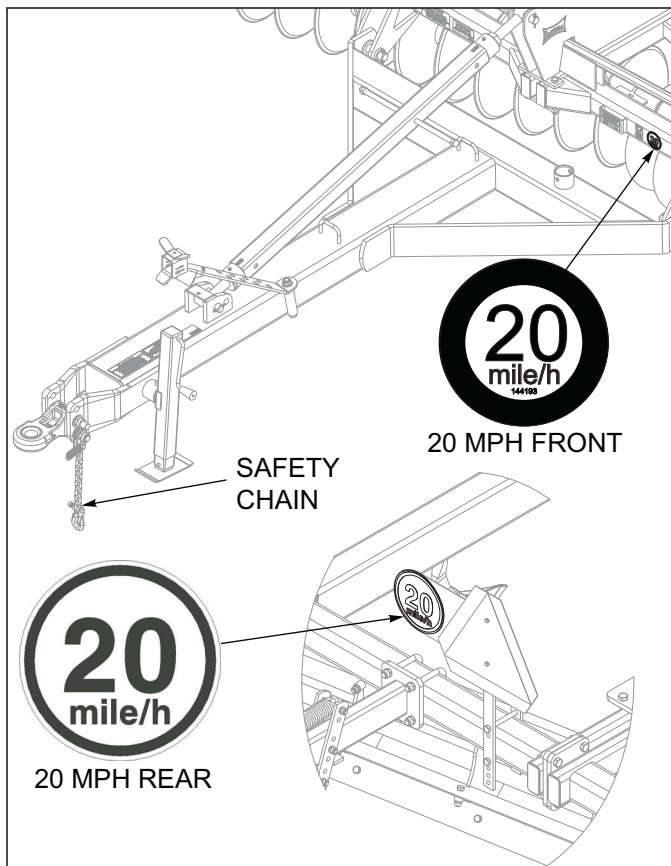

Figure 4-13: Hitch, Speed Identification Symbol, and Safety Chain
2. The 877 should be transported only by tractor required for field operation. The implement weight should not exceed more than 1.5 times the tractor weight. Maximum transport speed for the 877 is 20 mph for the implement and is designated on the speed identification symbol located on the front and rear of the implement **See Figure 4-13**.
- b. Attach the safety chain to the tractor drawbar **See Figure 4-13** Provide only enough slack in the chain for turning. Do not use an intermediate chain support as the attaching point for the chain on the tractor. Do not pull the implement by the safety chain.